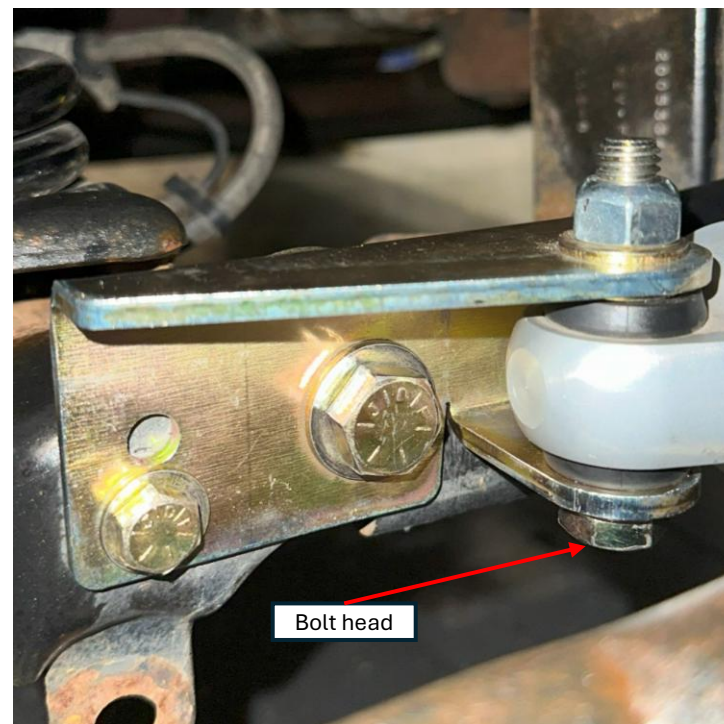

Figure 6: Steering stabilizer installed with the bolt head on the bottom of the bracket, and spacer washer installed
6. Install the factory or aftermarket steering stabilizer with the included M12 bolt, washers, and top lock nut in the orientation shown in Figure 6. Depending on the steering stabilizer, you may need to use the extra included washer as a spacer, also seen in Figure 6. Do not torque the steering stabilizer bolt yet.